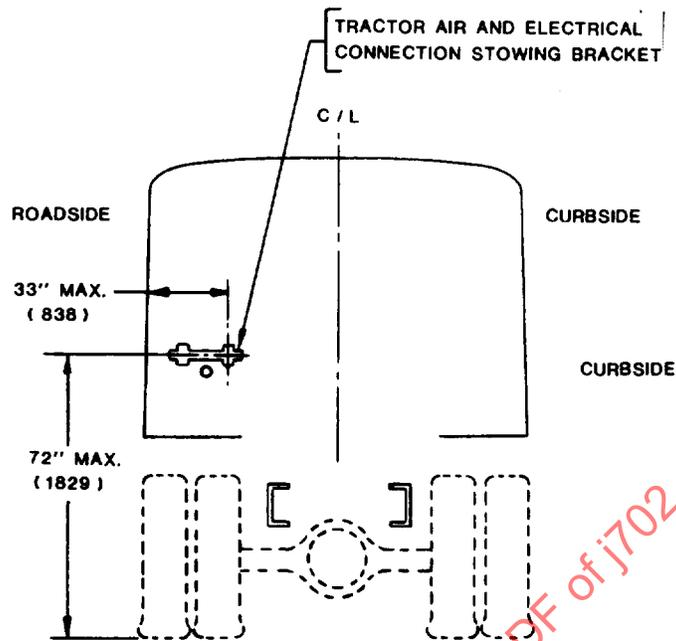

FIGURE 1—
- 3.1 **Truck-Tractor Fittings**—Fittings for stowing the cable and hose shall be located back of cab within the area shown in Figure 1.